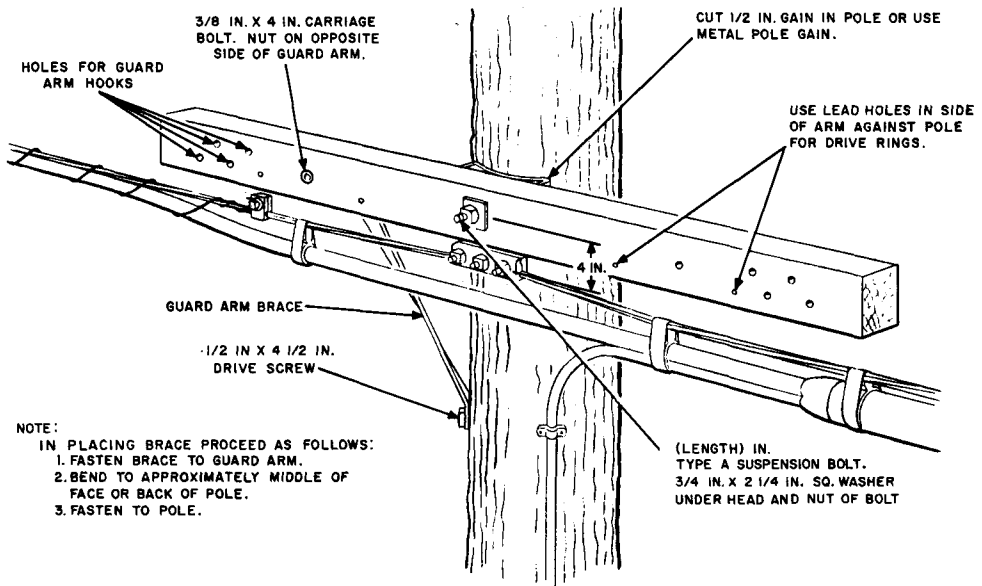

Fig. 4 — Guard Arm Installed
3.01 A properly installed guard arm is shown in Fig. 4.